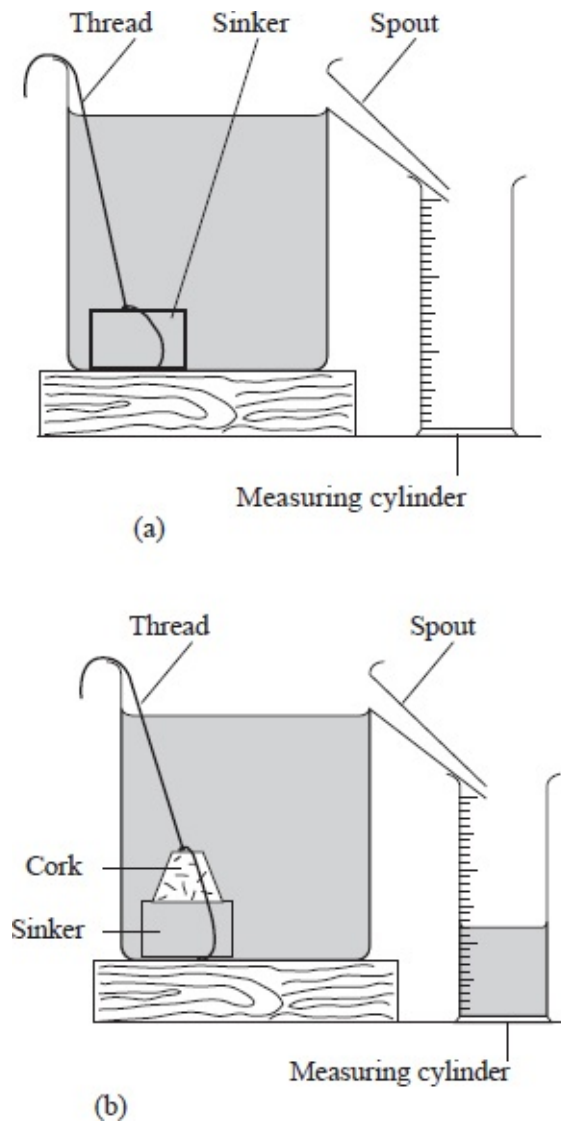

Fig. 2.15: Volume of an object that floats on water
- Fill the Eureka can with water and allow excess water to flow out through the spout, see figure 2.15 (a).
- Remove the sinker and tie it to the cork, see figure 2.15 (b).